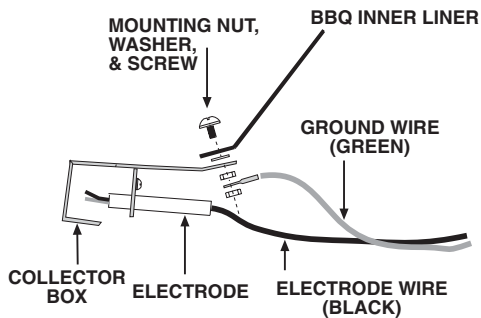
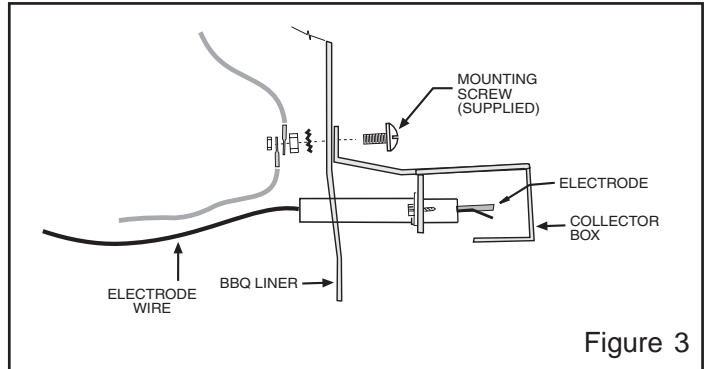

Figure 2
Figure 3
6. Attach the new electrode kit and ground (if used) to the barbecue liner with the adjusting screw, nut and washer provided, in the method indicated in either Figures 2 or 3, whichever matches your barbecue setup. Ensure the new collector box is fitted in the same position as the old one.
Note: For all setups you will need to bend part of the collector box upwards along point A (see Figure 1). We recommend you use pliers to start, then use a flat non-slip surface to bend the metal to the right angle required, as in Figure 3. The other setup (Figure 2) may require a smaller bend, as fits the circumstance. Use the old collector box & bracket as a reference for the proper bend. When the collector box is screwed into place, ensure the outer shoulders rest firmly and squarely on the burners. Slight bending may occur across point B. This is normal and allows box to sit in the correct position.